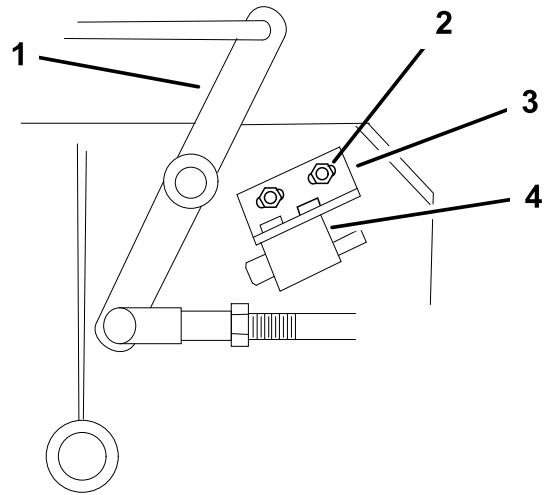

Figure 49
4. If needed, adjust the blade safety switch by loosening the bolts holding the switch bracket (Figure 49).
Note: Make sure the bellcrank **does not** touch the switch body or damage to the switch could occur (Figure 49).